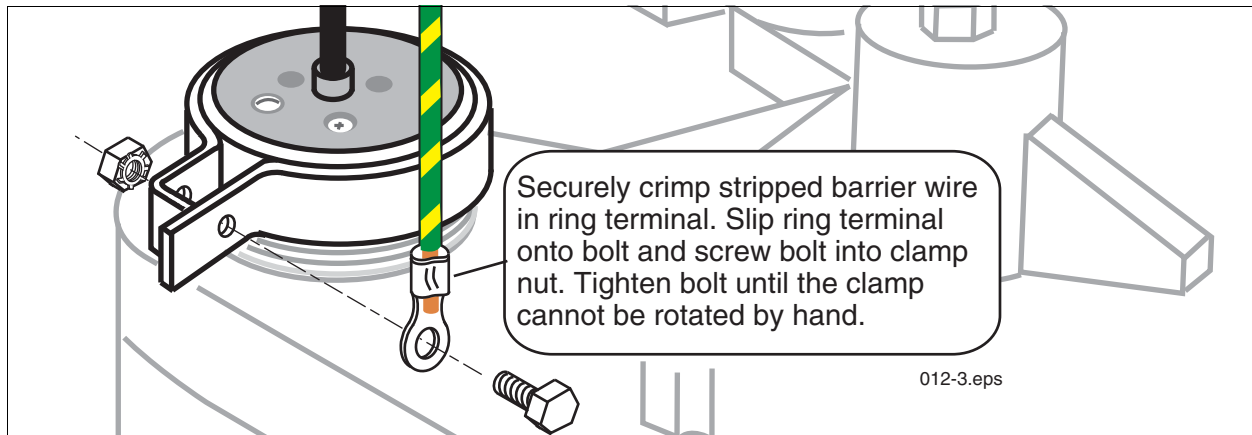

Figure 2.
4. Use a properly sized crimping tool to ensure a good tight bond (see Figure 2).